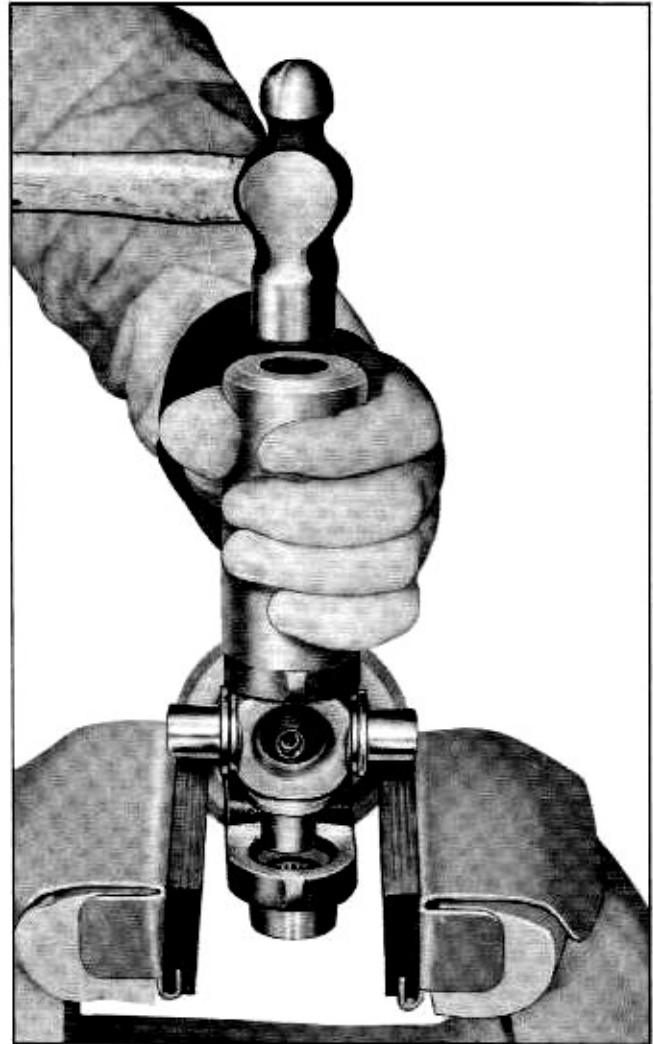

Fig. 4-8 Removing Bearing From Yoke
4. Using a piece of pipe $1\frac{1}{8}$ " I.D. or tool J-4774, drive yoke down causing journal (spider) to force bearing partially out of yoke (Fig. 4-8).